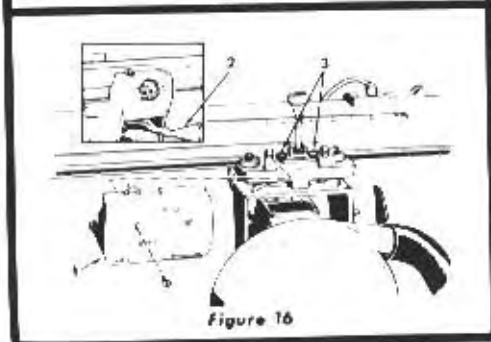

Figure 16
It will be necessary to loosen the bevel lock knob (1, figure 16) several turns in order to provide
- a. Remove the left-hand carriage cover (1, figure 16).
- b. Loosen the yoke clamp handle (2).
- c. Loosen (slightly) the two hex-head machine screws (3).
- e. Lock the yoke and tighten the two hex-head machine screws (3).
- h. Install carriage cover (1, figure 16).